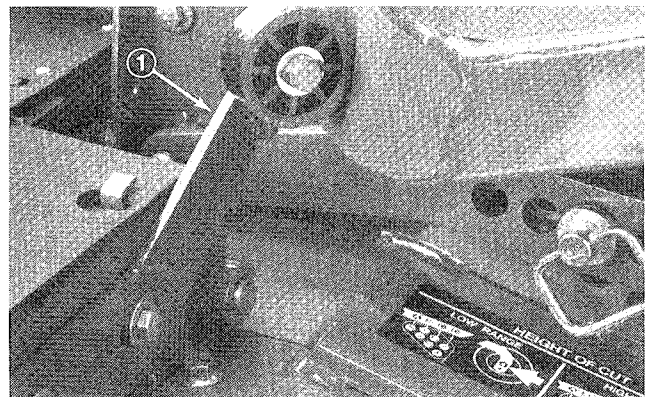

Figure 70
5. Loosen screws to allow neutral device bracket to move; but not freely (Fig. 70). Adjust neutral device bracket so that $40 \pm$ in-lb of torque on control lever just starts to rotate lever. Tighten screws.